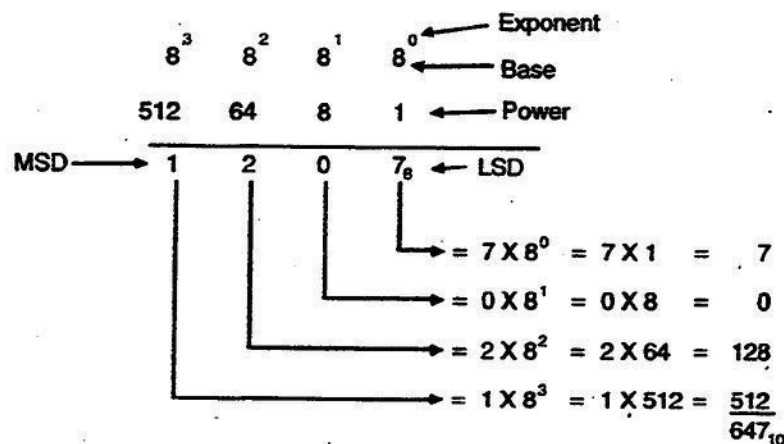

Figure 1-8. Octal PLACE value.
**Octal, binary, and decimal systems comparison.** You'll also recall from previous lessons that the decimal system uses 10 symbols (0,1,2,3,4,5,6,7,8,9) and is a base ten system; the binary system uses two symbols (0,1) and is a base two system. The octal numbering system uses eight symbols (0,1,2,3,4,5,6,7) and is a base eight system. Where decimals can be written as powers of ten and binary numbers can be written as powers of two, likewise, octal numbers can be written as powers of eight. As in other systems, the exponents in octal numbers tell how many times the base (8) is used as a factor. The value of a digit in an octal number is equal to the digit multiplied by the power of the PLACE it occupies. This should sound familiar to you because all of the numbering systems we've covered up to this point follow the same basic principles.
**PLACE value charts.** Place value charts are very useful when we work with octal numbers. They follow the same rules we discussed earlier as far as having a *base line*, *power line*, and a *number line*. Figure 1-8 is an octal PLACE value chart. You can see that it looks almost identical to a binary chart except for the numbers used. The base line shows the powers of eight:  $8^0$ ,  $8^1$ ,  $8^2$ ,  $8^3$ , etc.; the power line shows the value of how many times the base is multiplied by itself for each exponent column:  $8 \times 0 = 1$ ,  $8 \times 1 = 8$ ,  $8 \times 8 = 64$ ,  $8 \times 8 \times 8 = 512$ , etc.; and the number line shows how many times each power of eight column is used:  $7 \times 8^0 = 7 \times 1 = 7$ ,  $0 \times 8^1 = 0 \times 8 = 0$ ,  $2 \times 8^2 = 2 \times (8 \times 8) = 2 \times 64 = 128$ ,  $1 \times 8^3 = 1 \times (8 \times 8 \times 8) = 1 \times 512 = 512$ . PLACE value charts provide a quick reference for viewing the powers of eight.
- (1) Using a PLACE value chart, determine the largest power of eight value that can be subtracted from the decimal number. (NOTE: To identify the powers of eight required to complete the conversion, you may need to extend the octal place value chart in figure 1-8 or create your own.)
- (2) Divide this power of eight value into the decimal number to determine how many times this power of eight can be used as a multiple (Don't worry if it doesn't come out even.) This multiple becomes your MSD.
- (3) Next compute the product of your power of eight value and your multiple.
- (4) Subtract the product in step 3 from your decimal number to get a remainder.
- (5) Repeat the above steps until you get a remainder of zero, recording each multiple from step 2 as your next octal digit.
- (6) The last octal digit becomes your LSD.
- (7) Write your result as a base eight number.